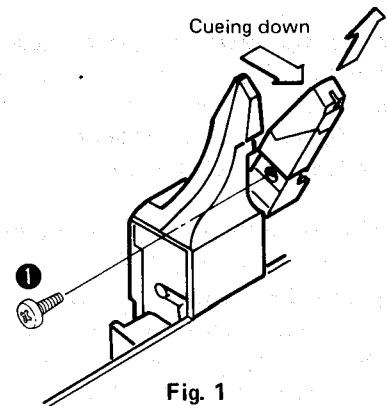

Fig. 1
### Operation of conventional type (See Fig. 1.)
- Normal operation [Fig. 1-①]
- Head-missing and tail-missing due to deflected record [Fig. 1-②, ③]
3. Remove the cartridge setscrew (Fig. 1: ❶), and pull out the cartridge.